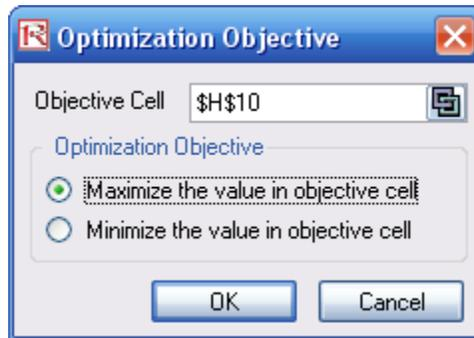

Figure 5: Setting optimization objective
2. Set the objective. Select cell **H10** (Total Value of Property) and click on the **O** icon or **Risk Simulator | Optimization | Set Objective** (Figure 5).